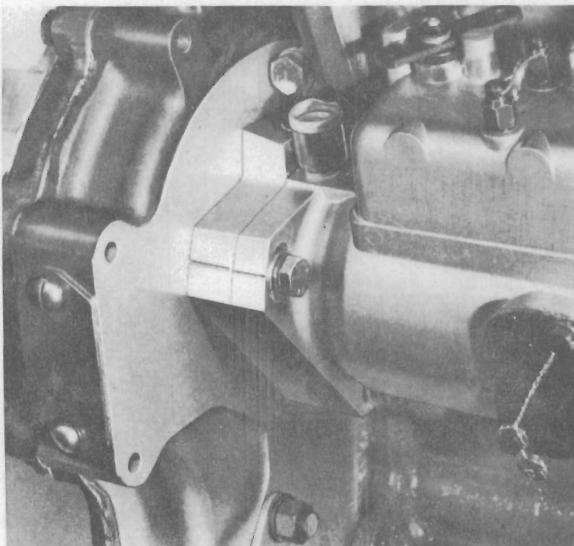
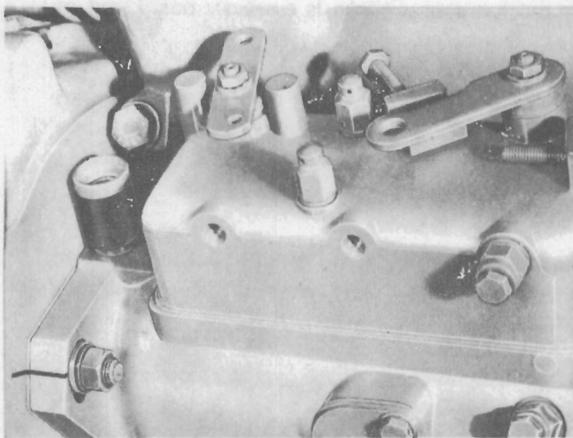

Fig. K.2.
Fig. K.3.
8. Fit the fuel injection pump and quill shaft passing the setscrews through the front of the pump and the carrier plate, so that they locate in the timing case. Line up the timing marks on the fuel pump flange, and the carrier flange before tightening the setscrews. (See Fig. K.2 or K.3).
On the fuel pump mounting flange is a scribed line which, when the fuel pump is fitted, should coincide with the scribed line on the fuel pump carrier plate (see Fig. K.2). Providing these scribed lines are in alignment and the fuel pump gear correctly fitted and aligned (see previous remarks), then the fuel pump timing should be correct. On D4.203 engines the scribed line on the fuel pump mounting flange should be lined up with a scribed line on the rear of the timing case (see Fig. K.3).
5. See that the fuel pump is correctly fitted with the scribed lines on the mounting flange carrier plate and timing case in-line. (See Fig. K.2. D4.203 see Fig. K.3.)